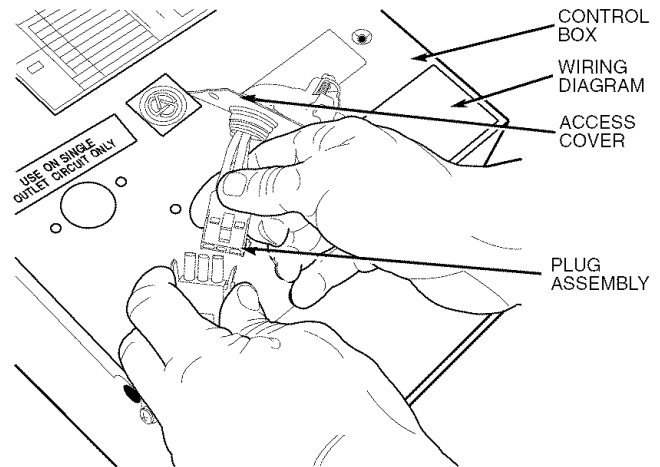

FIGURE 23 — DISCONNECTING PLUG ASSEMBLY ON HARDWIRED UNITS
2. Disconnect power at main power supply. Tag disconnect to ensure no one restores power to the unit. If front panel has not been removed, remove panel as shown in Figure 2. Remove access cover on side of unit chassis. Pull out plug assembly and disconnect (see Figure 23).